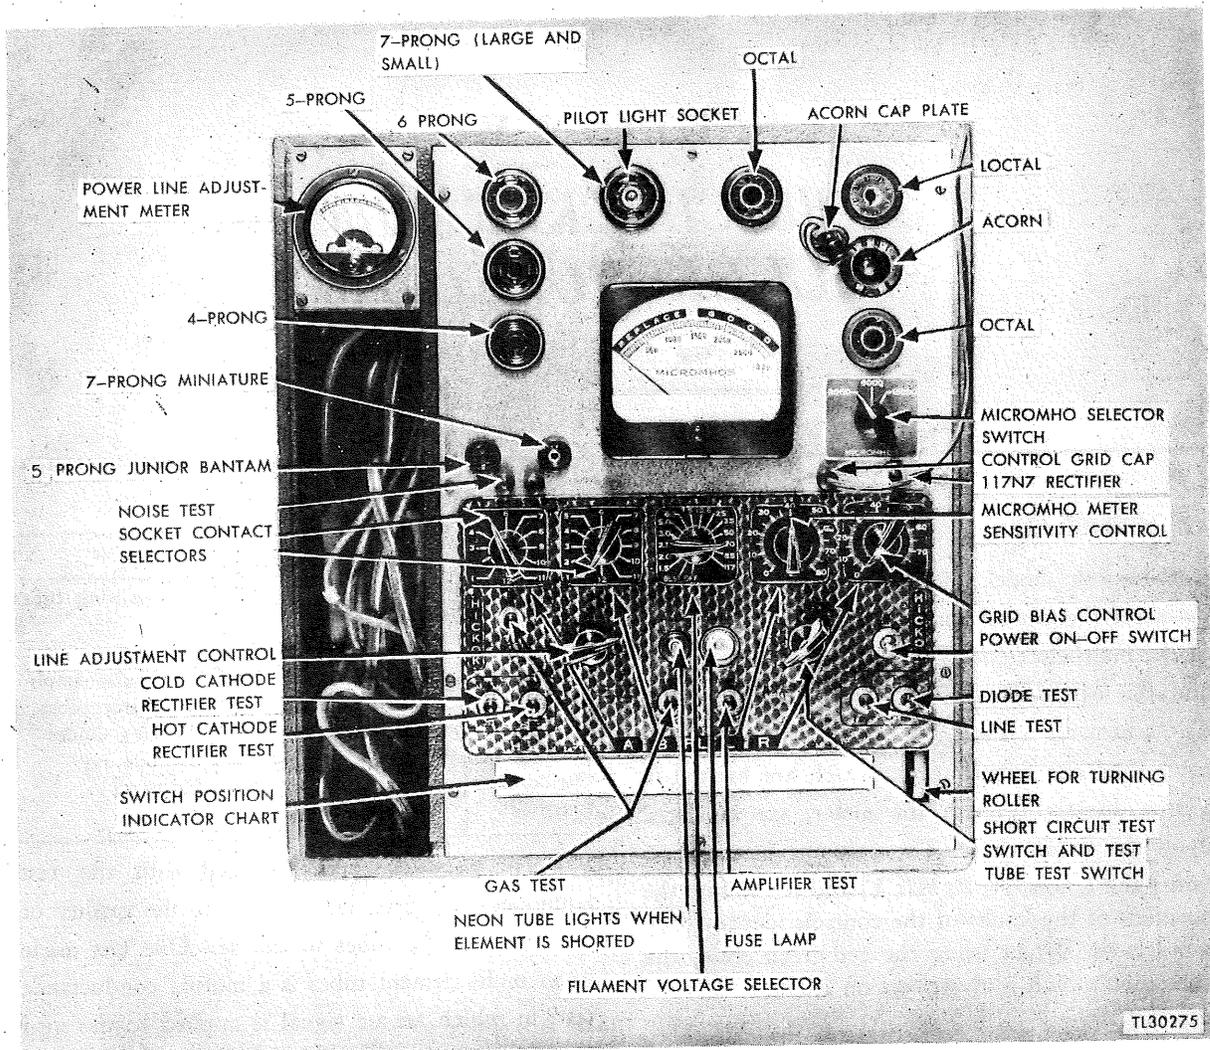
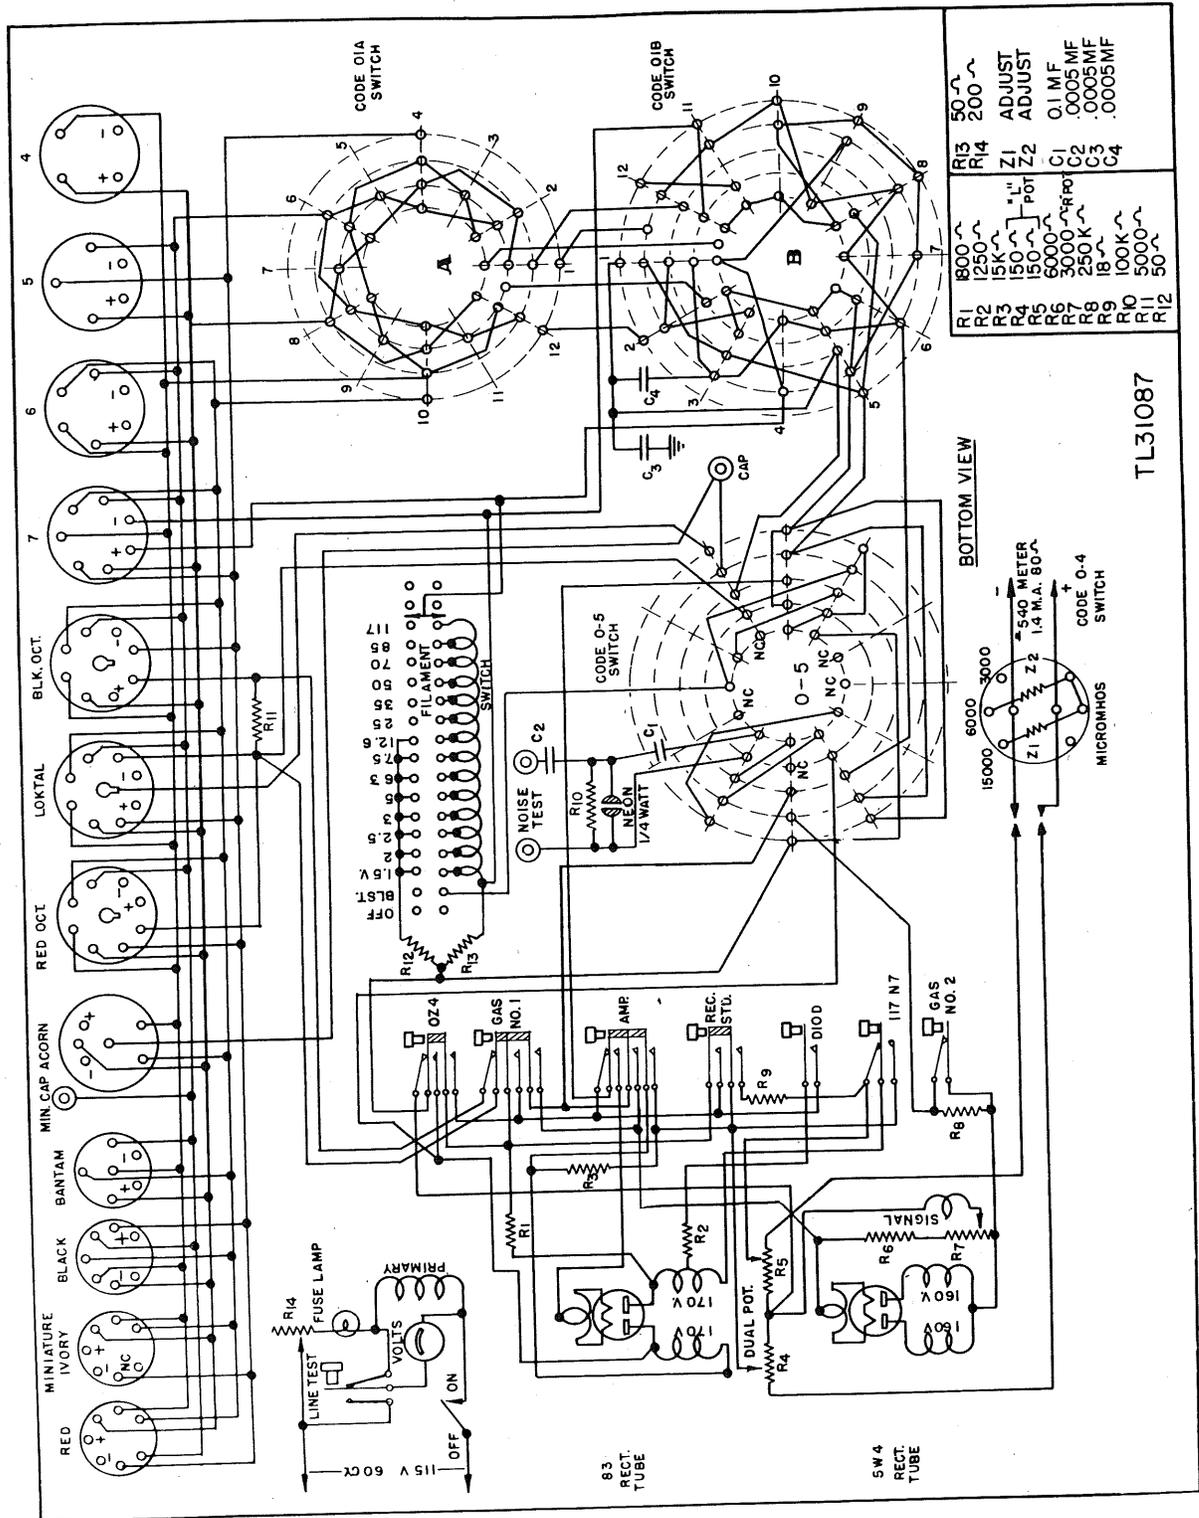

Figure 13. Tube Checker I-180, Hickok model 540, panel view.
Figure 14. Tube Checker I-180, Hickok model 540, schematic diagram.
a. Hickok model 540 tube checker (fig. 13) measures the mutual conductance of vacuum tubes of the multi-electrode type (including acorn tubes) and the emission of diodes and other rectifiers. The schematic is shown in figure 14. Instructions for setting the five controls, which are located in a row directly beneath the meter, are indicated upon the roller chart. The columns of numbers under the letters, A, B, FIL, L, and R indicate the positions of the knobs of the controls identified by the arrows. When using the red-green scale, the micromho switch is always set on 3,000.
a. *Limitations.* (1) Tubes that appear good in tests still may not operate properly in the circuits to which they are applied. Such tubes should be replaced.
a. *General.* This tester is a precision instrument, and no maintenance will be attempted by inexperienced personnel. Maintenance of this tube tester will consist chiefly of tube and fuse-lamp replacement and, to a limited extent, replacing of component parts. Locate faults by continuity tests, resistance measurements, voltage measurements, and visual inspection. The schematic diagram (fig. 14) shows the values of component parts and power-supply voltages.
ing the electrode potentials to the tube under test. A fuse lamp (standard 81 auto bulb) is in series with the primary of the input transformer and constitutes an automatic protective device against an overload of current damaging the instrument. It ordinarily will not need replacing even after being subjected to high current. However, if the tube checker fails to function when plugged into the proper a-c line, examine the fuse lamp and replace if necessary. Reference to figure 14 will show that the POWER LINE ADJUSTMENT METER operates even when the fuse lamp does not. The meter indication, therefore, should not be taken as a sign of proper a-c input to the tube tester.